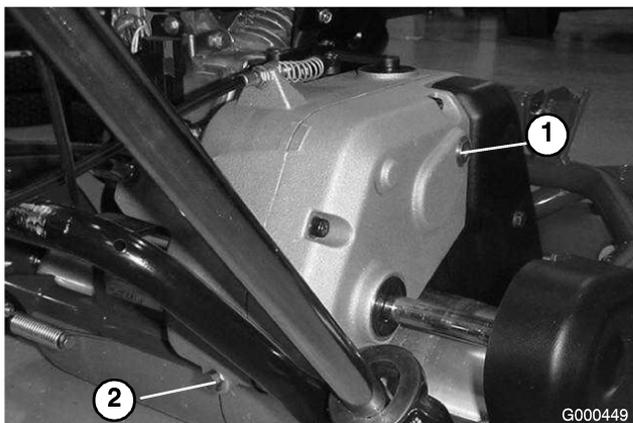

Figure 28
2. Remove the drain plug from the rear of the transmission (Figure 28).
3. Push down on the handle and tip the machine back. Remove the check/fill plug from the right-hand side of the transmission (Figure 28).